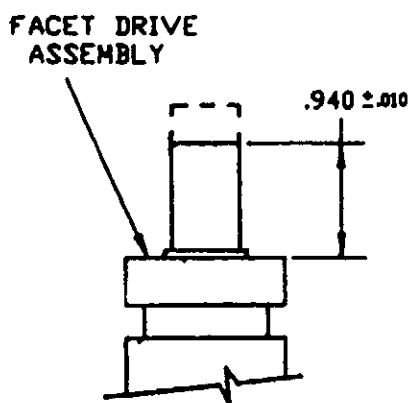

FIGURE 1
A. Measure the shaft end length of the 8-104 or 8-105 drive assembly shown in Figure 1. It should measure .940+/- .010 as shown. If not, alter the shaft length by making a square cut across the end of the shaft with an abrasive saw, taking care to limit heat input causing subsequent discoloration of the surface. Break all sharp edges.